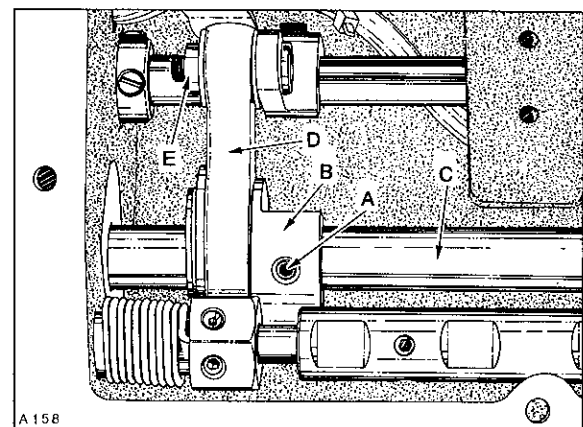
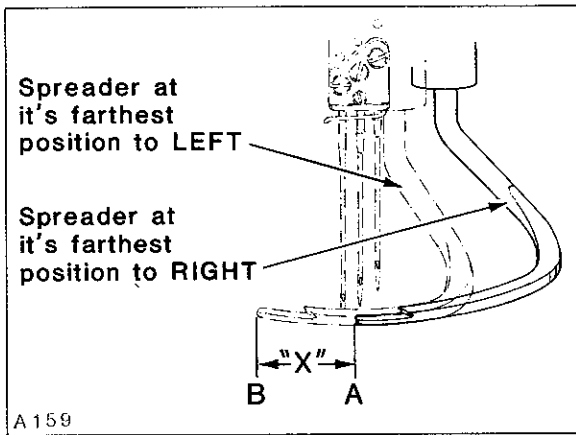

Fig. 28
Fig. 29
While rotating handwheel in operating direction, spreader should be TIMED so it begins to move from extreme left position to the right as needle bar descends $1/16$ inch (1.6mm) from TOP of stroke. Adjustment can be made by removing top cover, loosen two screws (A, Fig. 28) in hub of spreader drive eccentric (B), advance or retard eccentric on shaft (C) as required. When proper timing is obtained, position eccentric on its shaft (left to right) so as to ensure that spreader connecting rod (D) has MAXIMUM and CENTRALIZED SHAKE (left to right) while tightening screws (A) securely.
Spreader travel ("X", Fig. 29) is measured by placing a scale between the two extreme spreader arc travel points (not considering the arc), as shown between points (A and B). See chart for specified dimensions. Adjustment can be made by loosening nut (E, Fig. 28), move connecting rod (D) upward to shorten spreader travel or downward to lengthen spreader travel. After specified length of travel is obtained, tighten nut (E) securely.